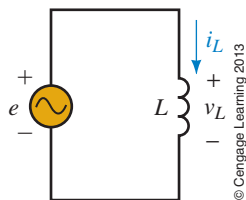

FIGURE 16-53
21. For Figure 16-53, $V_m = 10$ V and $I_m = 5$ A.
23. For Figure 16-53, $e = 100 \sin \omega t$ and $L = 0.5$ H. Determine i_L at
24. For Figure 16-53, let $L = 200$ mH.
25. For Figure 16-53, if